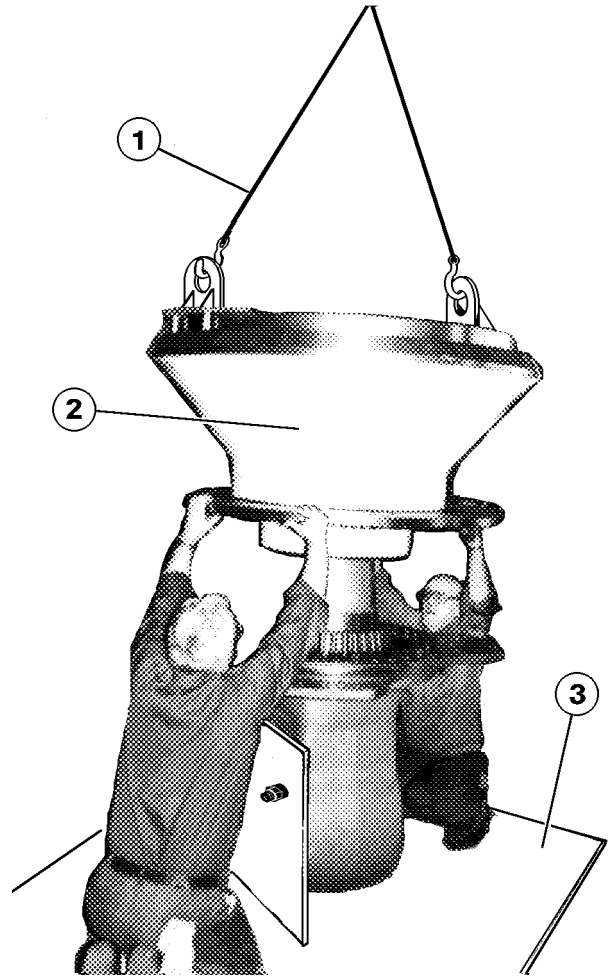

FIGURE 3-8. WHEEL HUB INSTALLATION
- 1.) Inner Cup (20) - Apply **30,000 lbs. (133,450 N)** force.
- 2.) Outer Cup (10) - Apply **23,000 lbs. (102,300 N)** force.
9. Install the other half of the seal assembly (16) in the hub using installation tool (TY2150) and soft tipped mallet. Follow procedure outlined in step 6.
10. Check bearing cone (9) for free fit on the spindle (17), then remove.
11. Referring to Figure 3-8, lift the hub and carefully lower it down over the spindle. To aid installation and to prevent damaging the seal, the spindle and hub should be level.